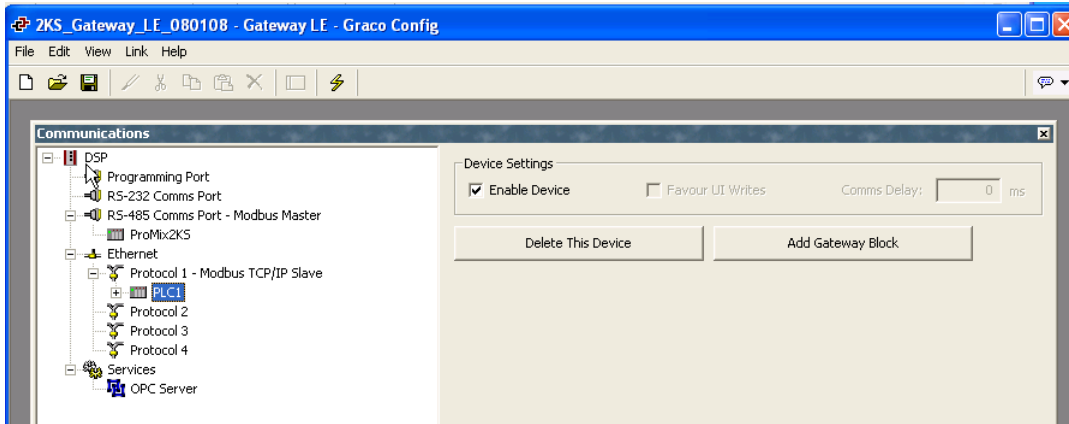

FIG. 21: Rename PLC1
3. See FIG. 21. Right click on device PLC1 to rename it to something meaningful for your system.